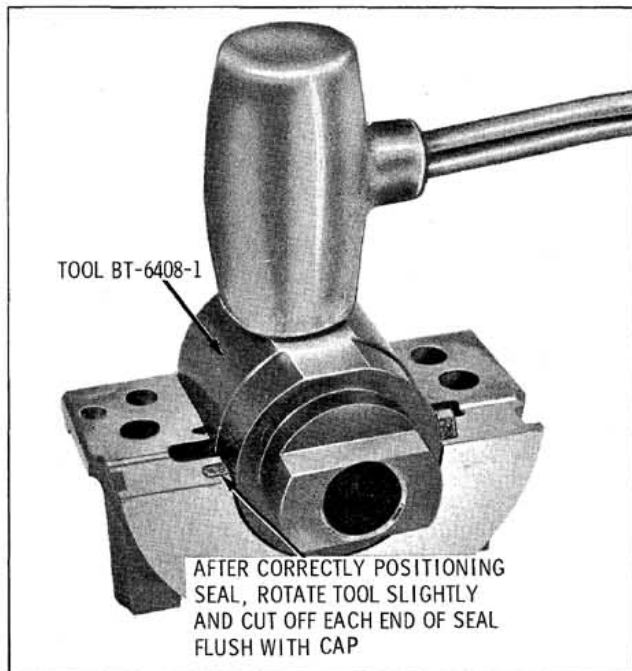
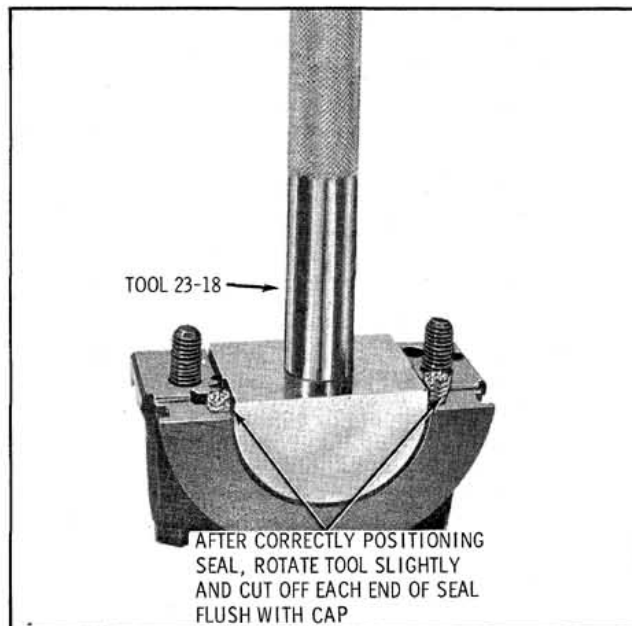

Fig. 3-103 Installing Rear Main Oil Seal Lower Half - 330 Cubic Inch
Fig. 3-104 Installing Rear Main Oil Seal Lower Half - 425 Cubic Inch
BEARING OIL SEAL) (Fig. 3-103 for 330 cubic inch engine or Fig. 3-104 for 425 cubic inch engine)
2. Using seal installer, hammer seal into groove. (Fig. 3-103 for 330 cubic inch engine or Fig. 3-104 for 425 cubic inch engine)